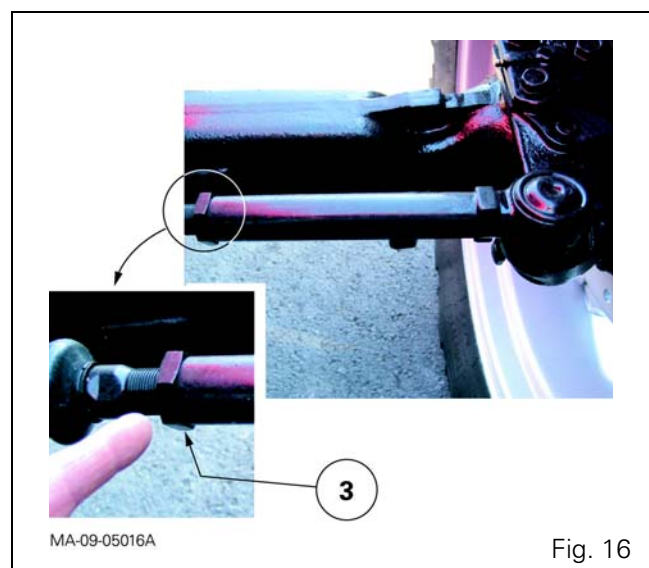

Fig. 16
37. Loosen nut (3). Remove the right-hand steering link rod (including pivot ball) (Fig. 16).
- steering link rod nuts (3) (Fig. 16).